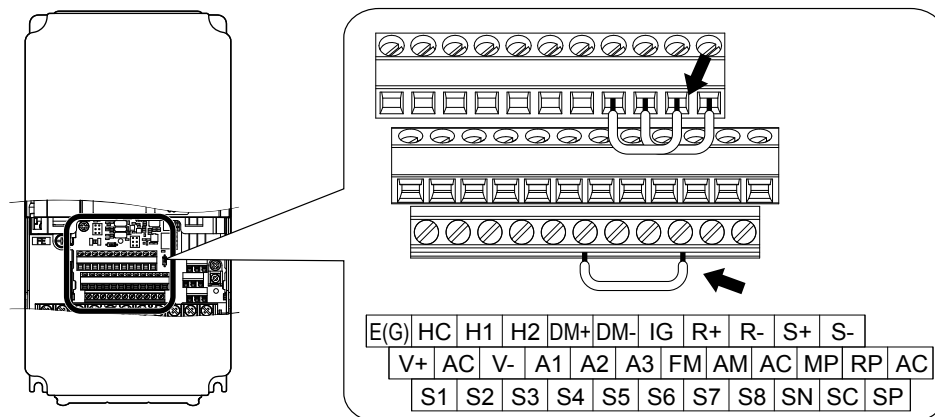

Figure C.7 Terminal Connections for Communication Self-Diagnostics
4. With the power off, wire the drive as shown in **Figure C.7**, connecting terminals R+ and S+, R- and S-, and S6 and SN.